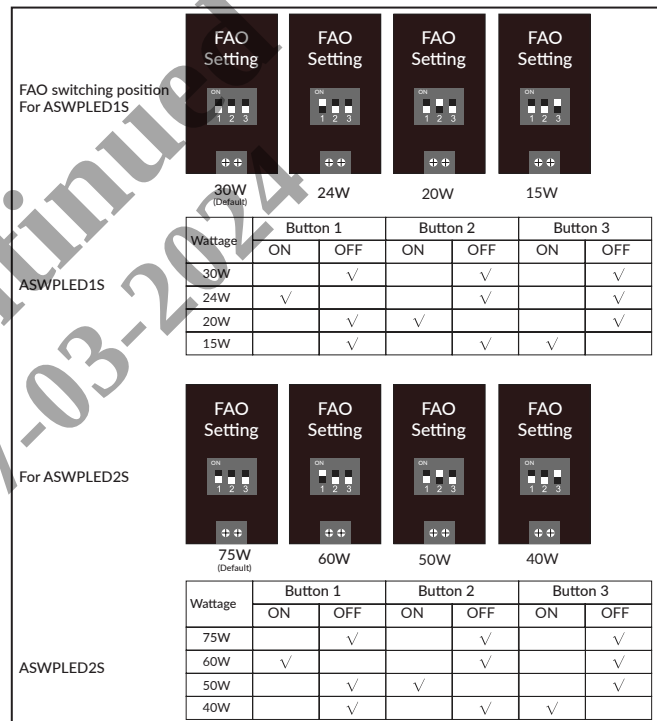

Figure 4B.
6. Select the desired CCT and FAO by using the sliding switch according to project needs. (Figure 4B)